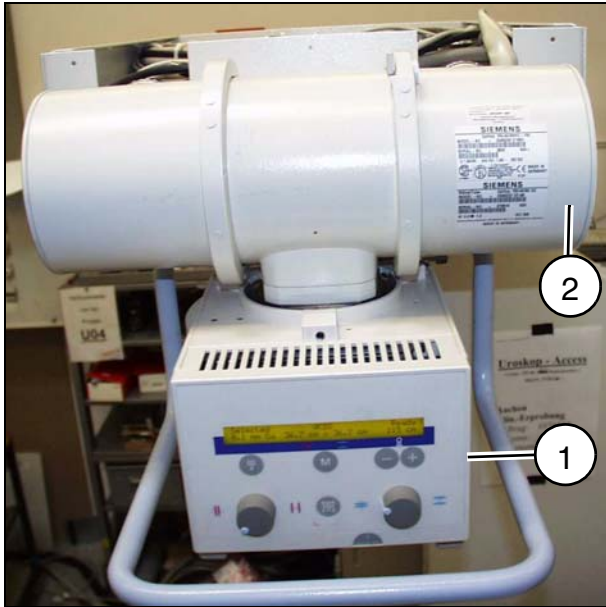

Fig. 5
- Dismount the collimator (1/Fig. 5).
- Detach the X-ray tube assembly (2/Fig. 5); **lead, copper, iron**.